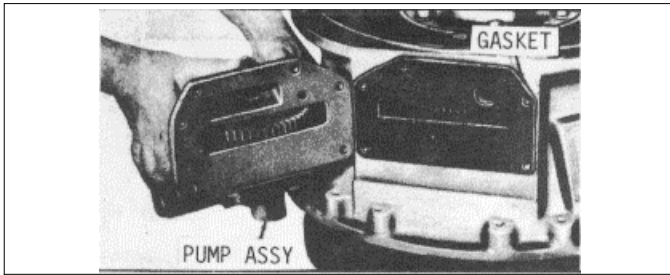

Fig. 7
- (1) Position the converter, on the disconnect clutch end, on the disassembly table.
- (2) Remove six bolts and lock washers from the pump assembly. Remove the assembly and gasket (Fig. 7).